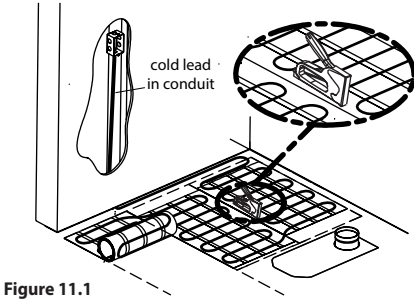

Figure 11.1
- Staple the mat to the plywood subfloor to prevent the mat ends from curling (figure 11.1);